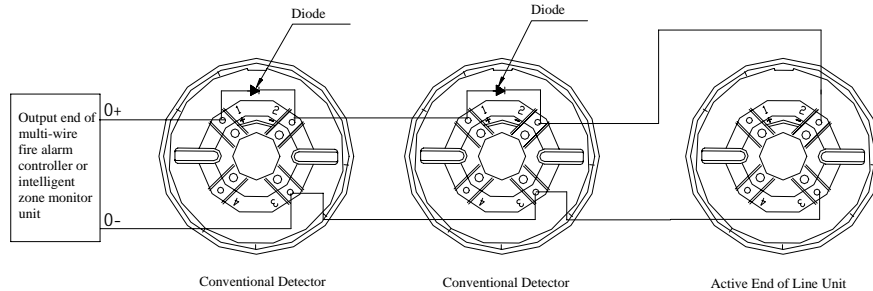

Fig.3 System composition when the unit not used as a detector base
2. If the unit is not installed with a detector, the anode of zone loop should be connected to terminal "2" and cathode to terminal "3" as shown in Fig. 3.